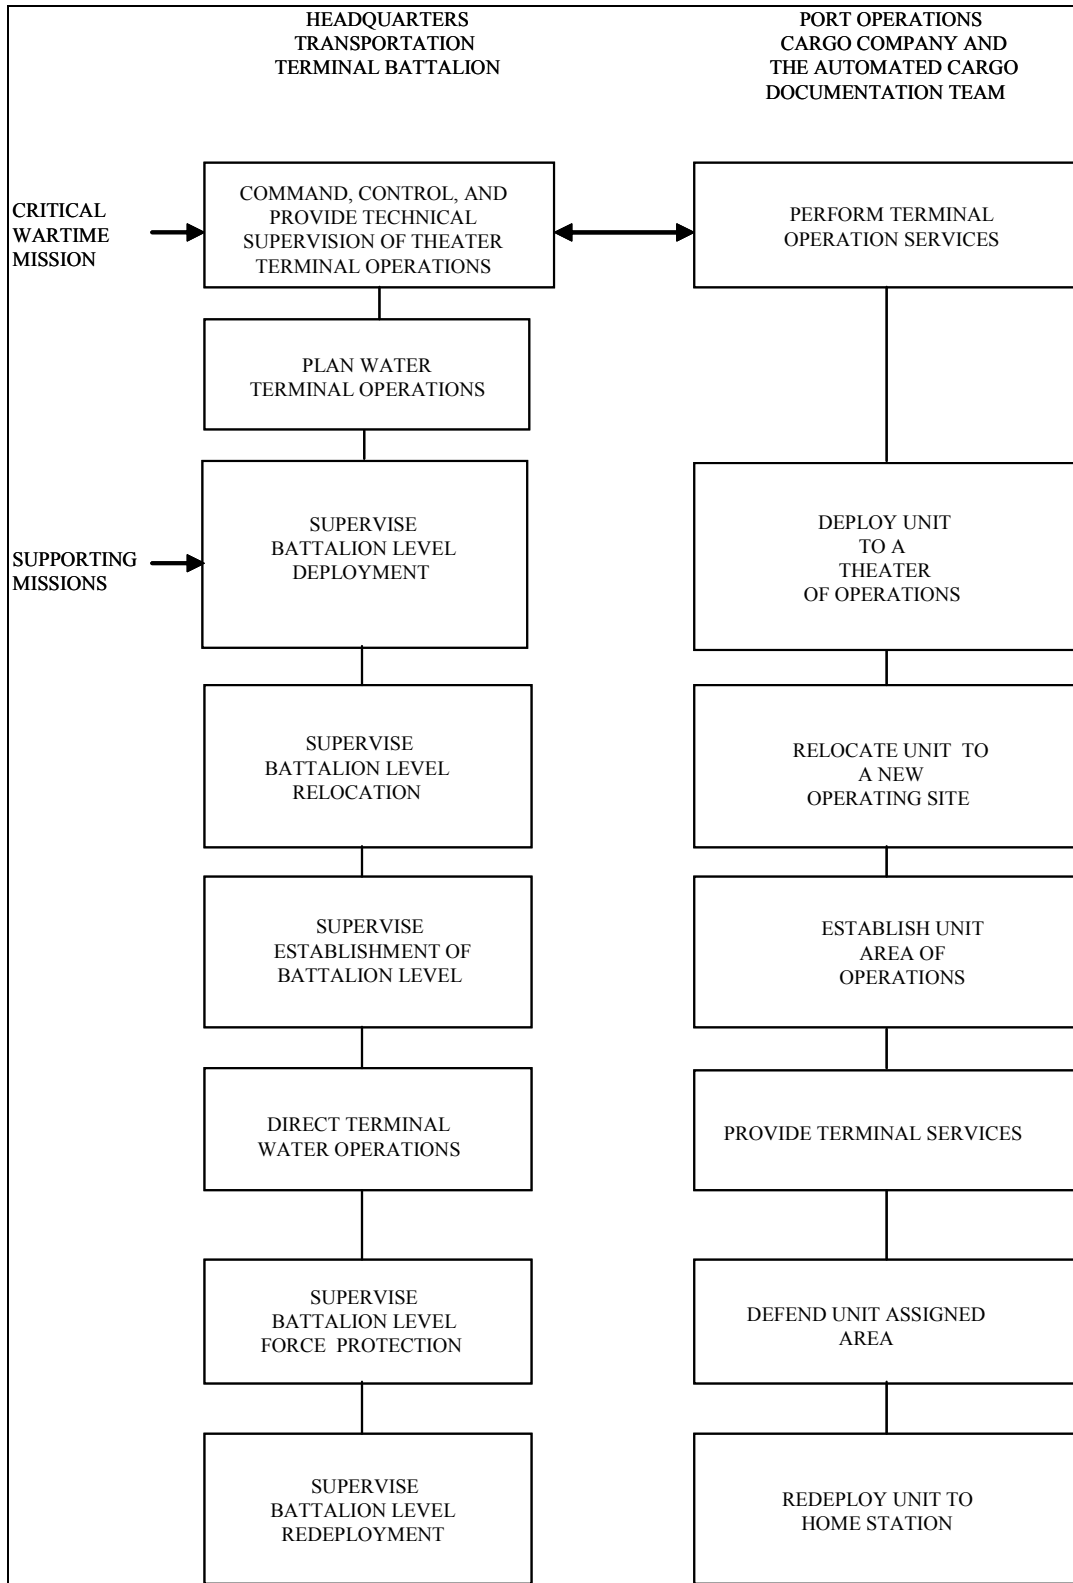
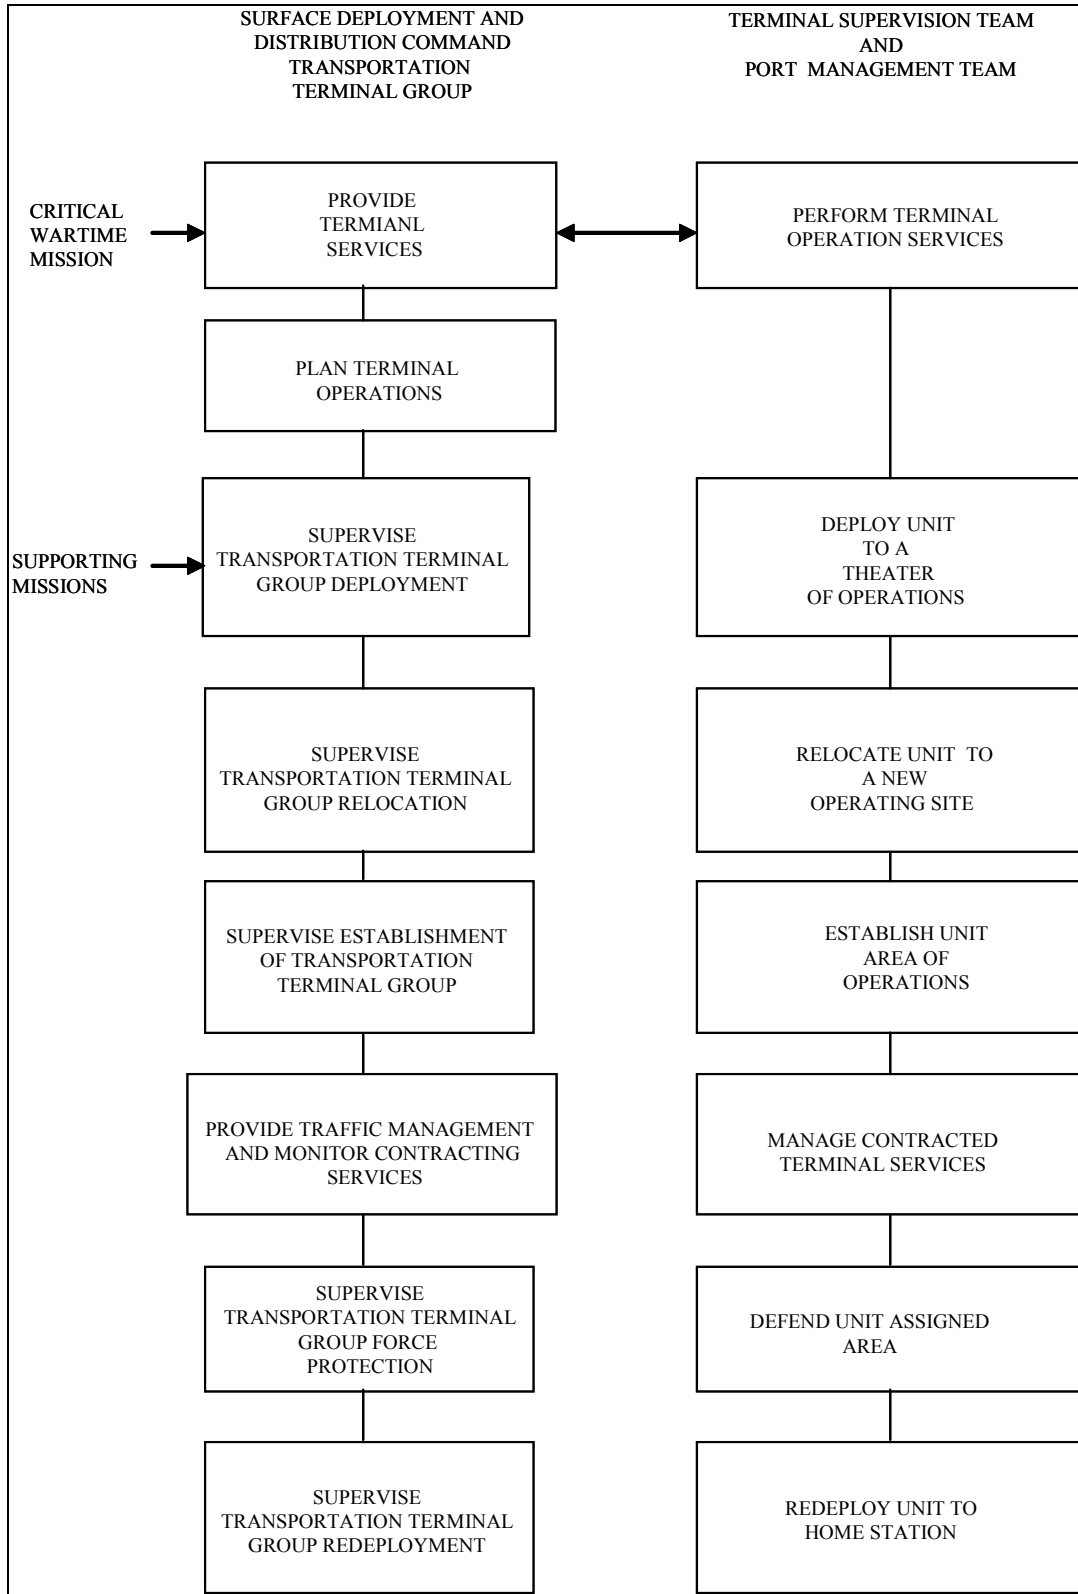

Figure 1-4. Critical Wartime Mission Echelon Relationship Diagram for the POCC and ACD Team
Figure 1-5. Critical Wartime Mission Echelon Relationship Diagram for the TST and PMT
b. **Critical Wartime Mission Echelon Relationship.** The Critical Wartime Mission Echelon Relationship diagram shows the relationship of this unit's mission to those of the next higher echelon. Figure 1-4 shows the mission relationship of this unit's mission of HQ TTBn, POCC, and ACD Team. Figure 1-5 shows the mission relationship of this unit's mission of SDDC TTG and the TST and PMT Teams.